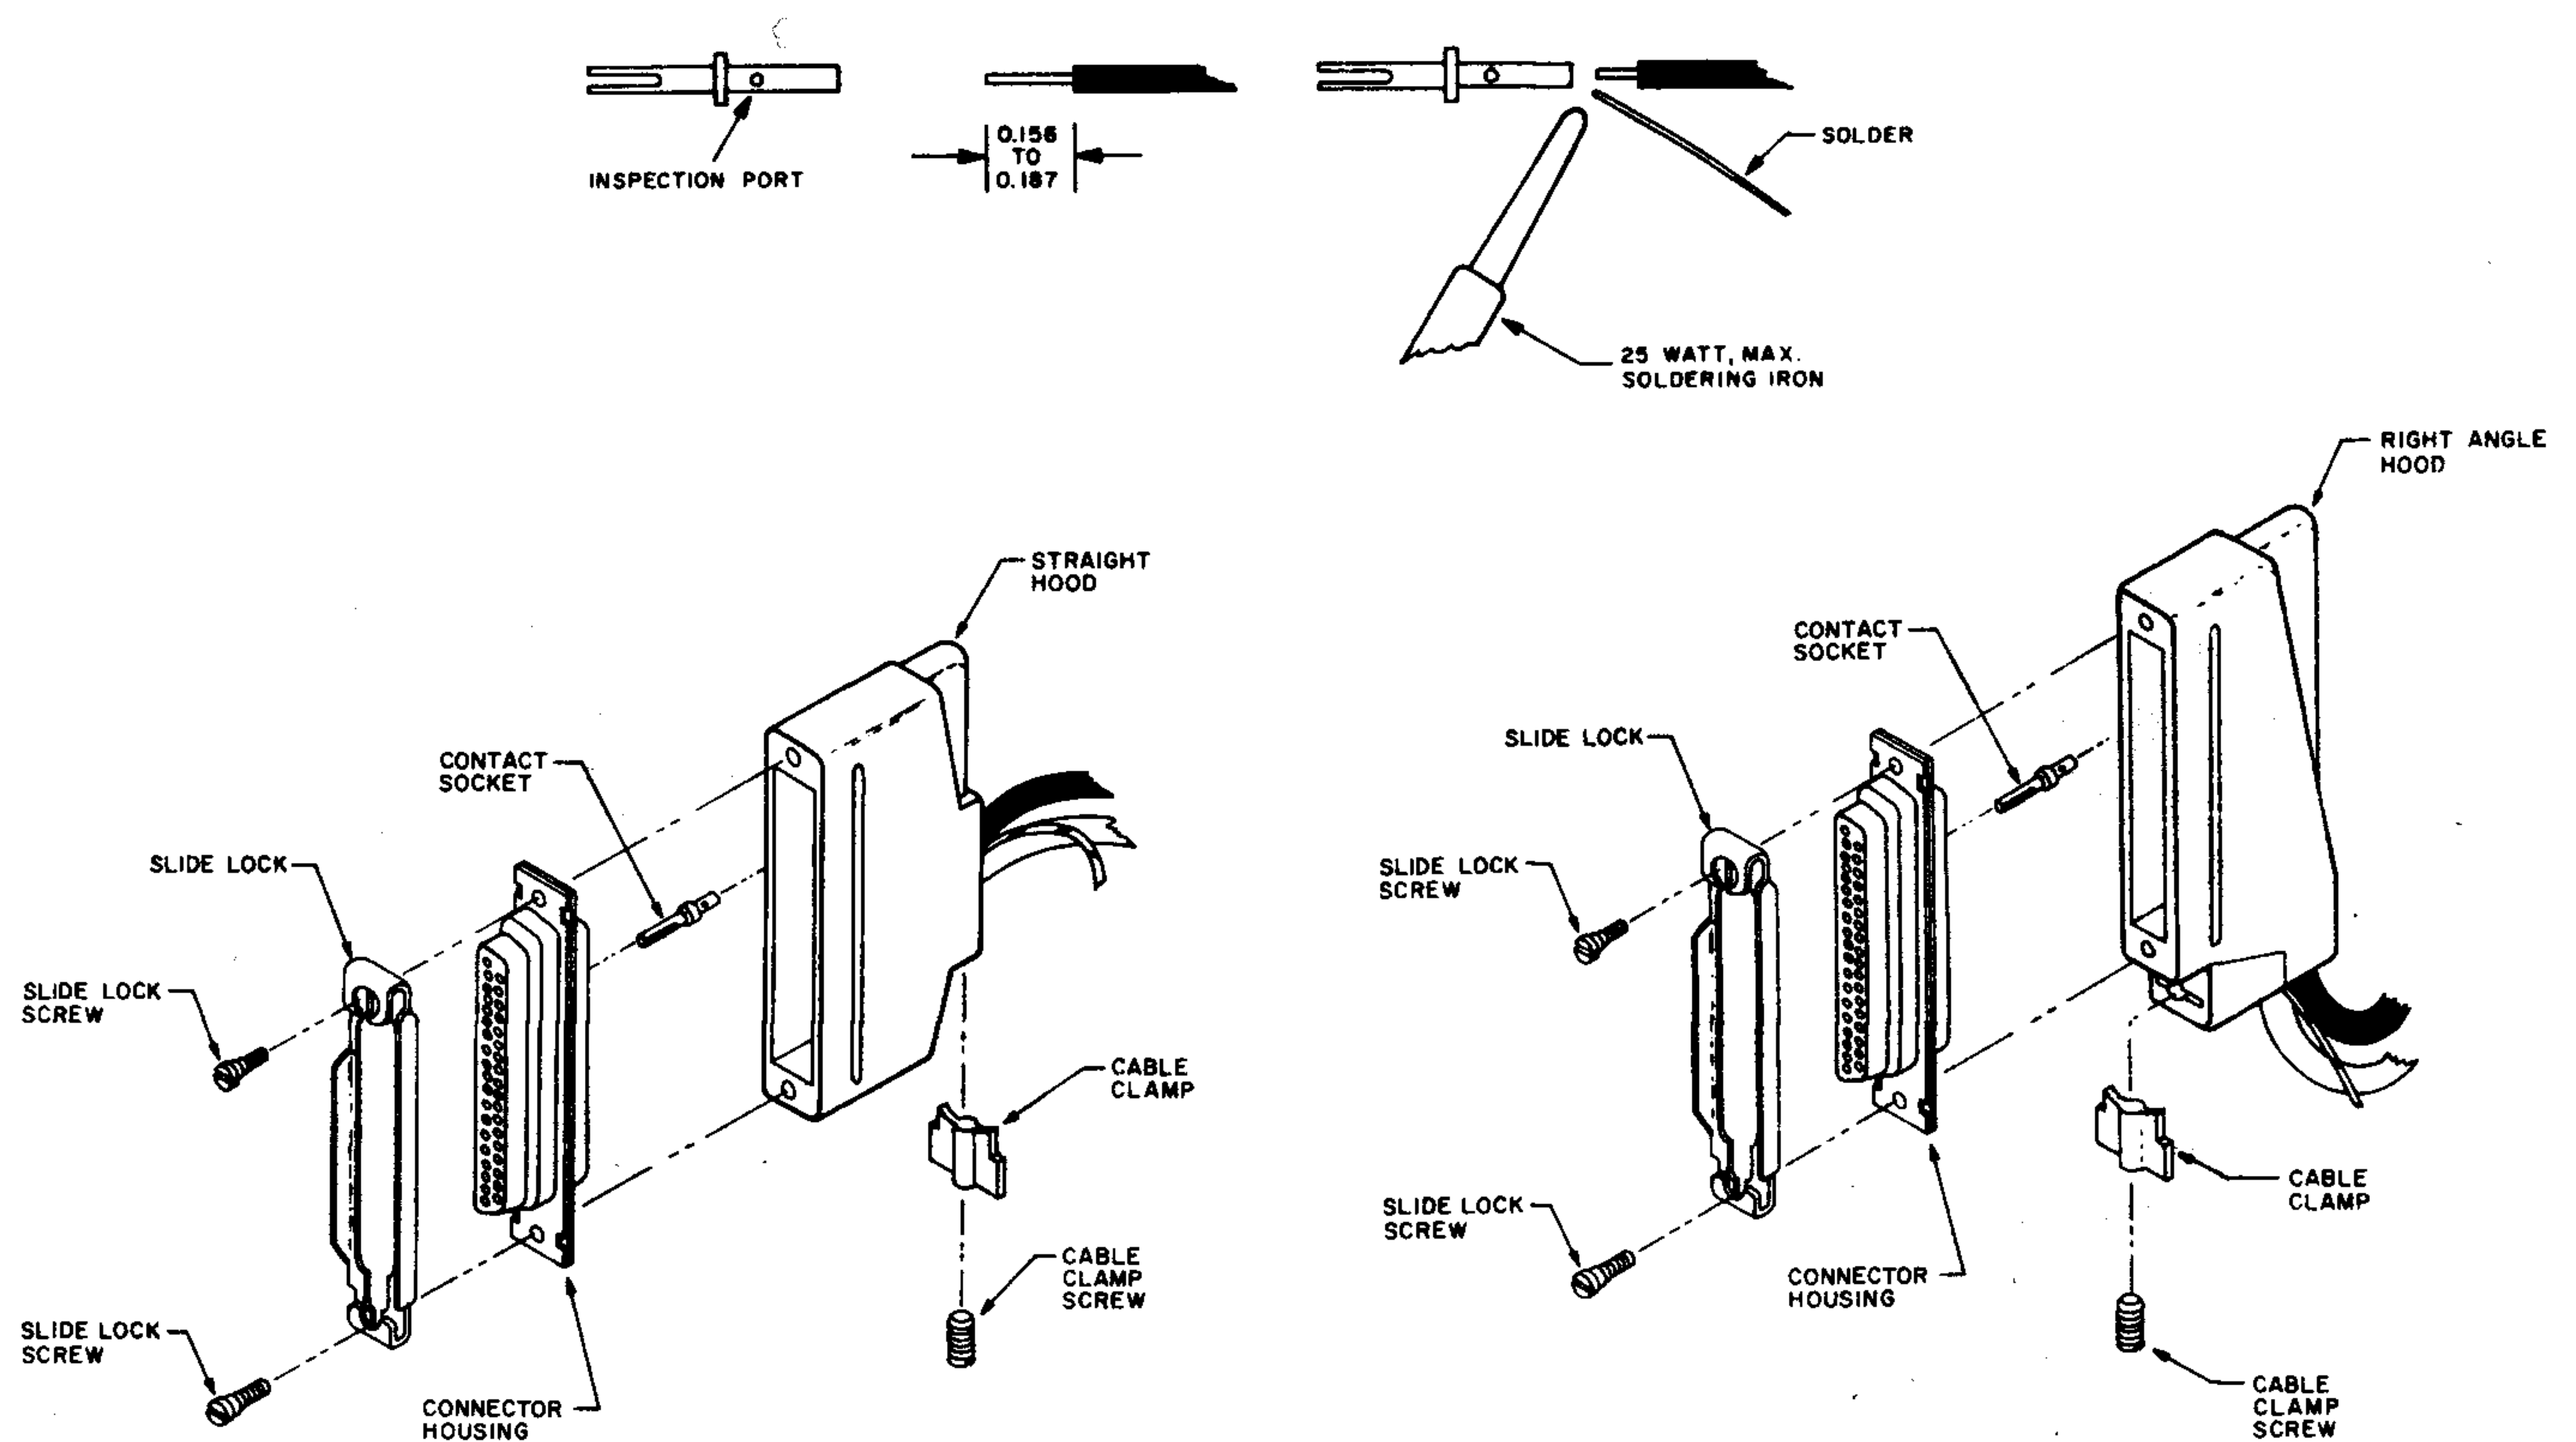

FIGURE 2-8. P810 ASSEMBLY
P810 is assembled as shown in Figure 2-8. While constructing the cable, be sure to pass wires through the hood before inserting pins into the connector.
1. Strip wire as shown in Figure 2-8. Maximum wire size is No. 20AWG.